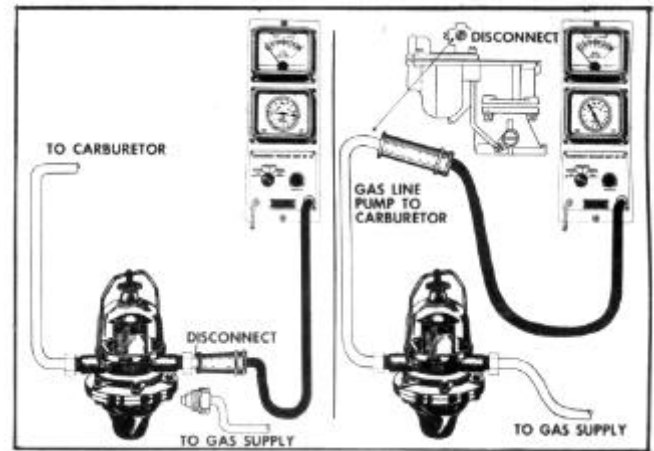

FIGURE 27
4. Disconnect the fuel line at the carburetor and connect the fuel pump gauge, Figure 27.